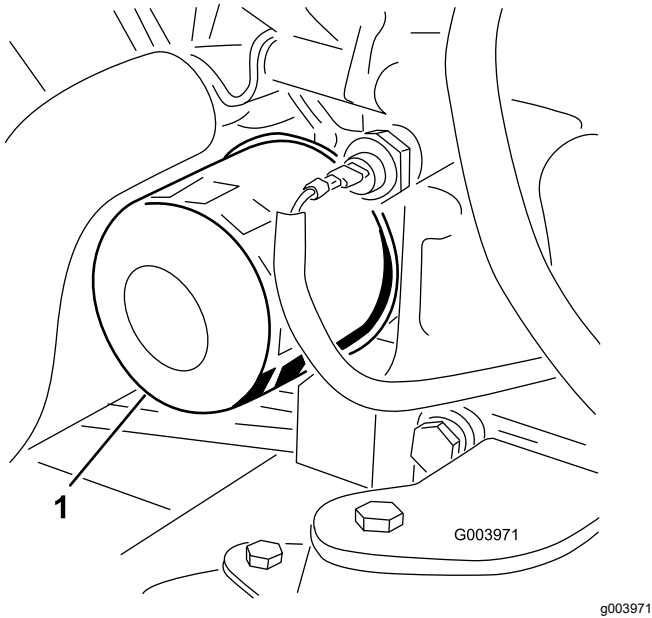

Figure 78
3. Remove the oil filter (Figure 78).